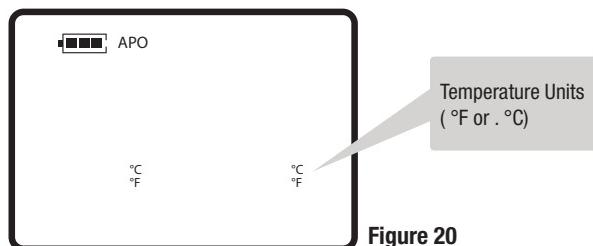

Figure 20
- 3) Press **SET**. The Temperature Units Screen (**FIG. 20**) will appear (blinking).
- 3) Press **SET**. The **Temperature Units Screen** (blinking) appears (FIG.20).
- 3) Press **SET** to bypass Refrigerants Screen. The Temperature Units Screen (blinking) appears (**FIG. 20**).